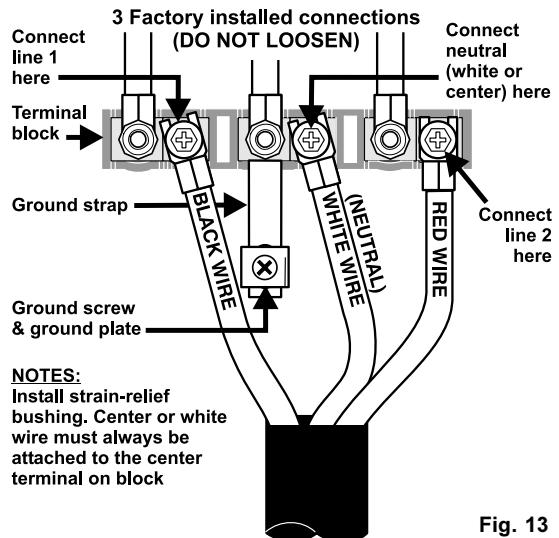

Fig. 13
### (3-Wire Connection Instructions . For existing installations ONLY - Refer to Fig. 13).
- Insert the end connectors for Line 1, Line 2 and Neutral and tighten securely to the terminal block (See Fig. 13).
**Grounding Instructions (3-Wire Connections only):** A ground strap is installed on this range which connects the center terminal of the terminal block (Neutral) to the range chassis. The ground strap is connected to the range by the center, lowest screw (See Fig. 13). The ground strap must not be removed unless National, State or Local Codes do not permit use of a ground strap.